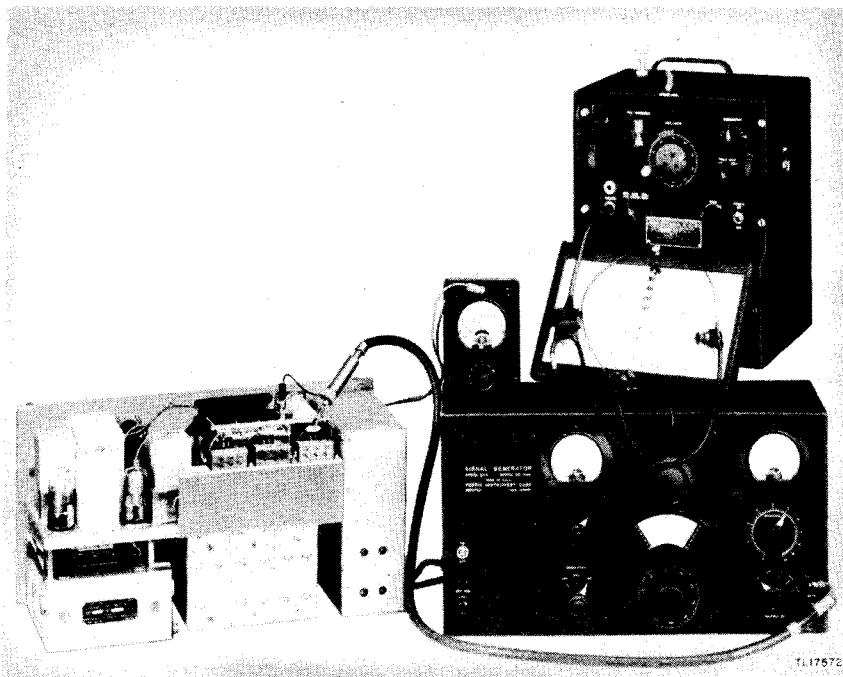

Figure 76. Typical test set-up for receiver r-f alignment.
**b. PREPARATION.** Set up the receiver and alignment equipment as shown in figure 76. Calibrate the signal generator for a 2,900-kc signal (h-f model) or for a 255-kc signal (m-f model) as described in paragraph 84. Set the receiver BAND CHANGE switch to Band A, the OFF-M.V.C.-A.V.C. switch to M.V.C., the C.W.-OSC. switch to OFF, the CRYSTAL PHASING control to OUT (h-f model), and the VOL control to maximum. Set the receiver dial to 2,900 kc (h-f model) or to 255 kc (m-f model). Remove the shield plate covering the r-f amplifier and mixer adjustment screws on the rear of the chassis, and loosen the adjustment screw locknuts.